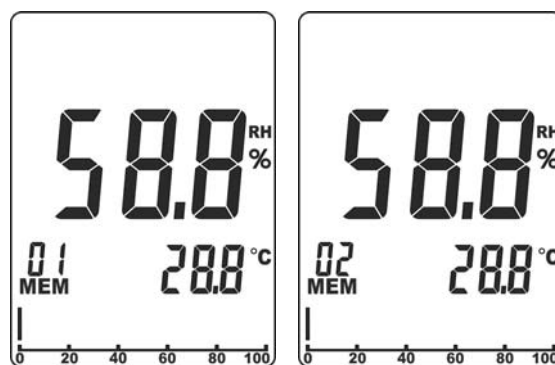

Fig. 3: Storage of measurement results
1. With the result shown on the display (see Fig. 3 – left side), press and hold (>2s) key **MEM/ALM** until the instrument gives out a sound.
2. The measured value is saved in the location indicated at the bottom of the display (see Fig. 2 – part 15) and the instrument automatically shows the next available location (see Fig. 3 – right side)